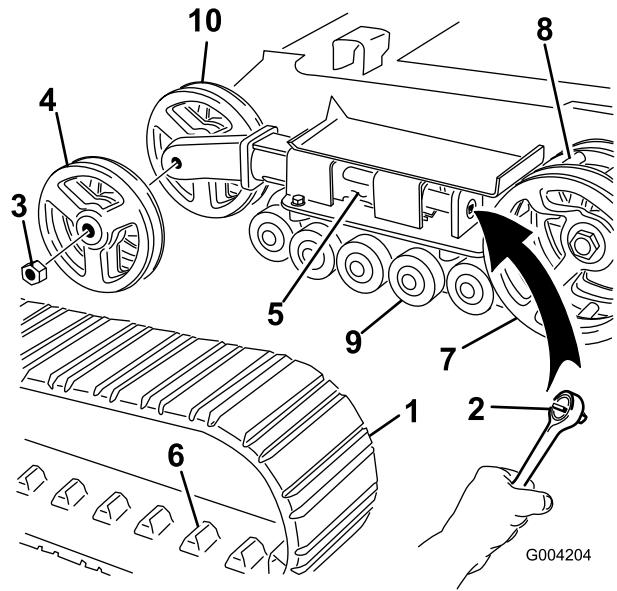

Figure 40
4. Using a 1/2 inch drive socket, release the drive tension by turning the tensioning screw clockwise (Figure 38 and Figure 40).
5. Push the tension wheel toward the rear of the unit to move the tension tube against the frame (Figure 40). (If it does not touch the frame, continue turning the tensioning screw until it does.)
6. Remove the nut securing the outer tension wheel and remove the wheel (Figure 40).
7. Remove the track (Figure 40).
8. Remove the nut securing the inner tension wheel and remove the wheel (Figure 40).
12. Install the inner tension wheel and secure it with the nut removed previously (Figure 40).
14. Install the new track, ensuring that the lugs in the track fit between the spacers in the middle of the drive sprocket (Figure 40).
15. Install the outer tension wheel and secure it with the nut removed previously (Figure 40).